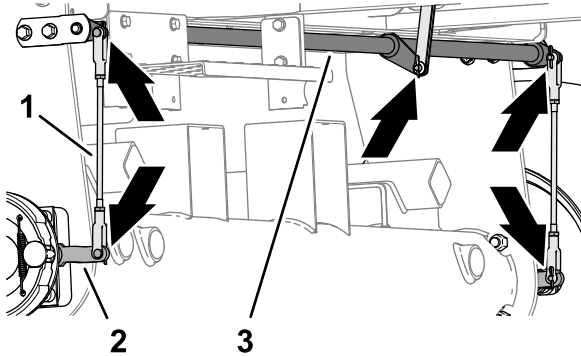

Figure 72
1. Inspect the left and right brake-rod assemblies (Figure 72) for damage and wear.
2. Inspect the brake pivot shaft (Figure 72) for damage and wear.